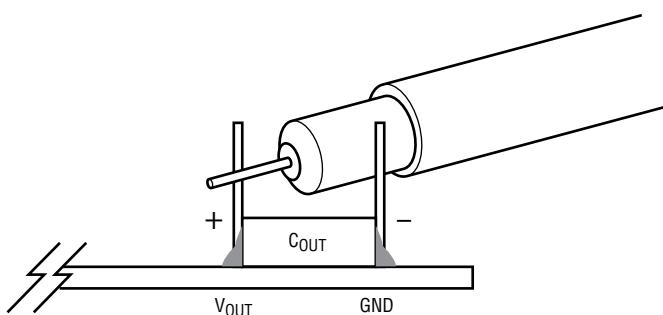

Figure 2. Scope Probe Placement for Measuring Output Voltage Ripple
6. Once the input and output voltages are properly established, adjust the loads within the operating range (0A to 2A Max) and observe the output voltage regulation, output voltage ripple, switch node waveform and other parameters. Refer to Figure 2 for proper output voltage ripple measurement.
**NOTE 1:** To measure the input/output voltage ripple properly, do not use the long ground lead on the oscilloscope probe. See Figure 2 for the proper scope probe technique. Short, stiff leads need to be soldered to the (+) and (-) terminals of an output capacitor. The probe’s ground ring needs to touch the (-) lead and the probe tip needs to touch the (+) lead.